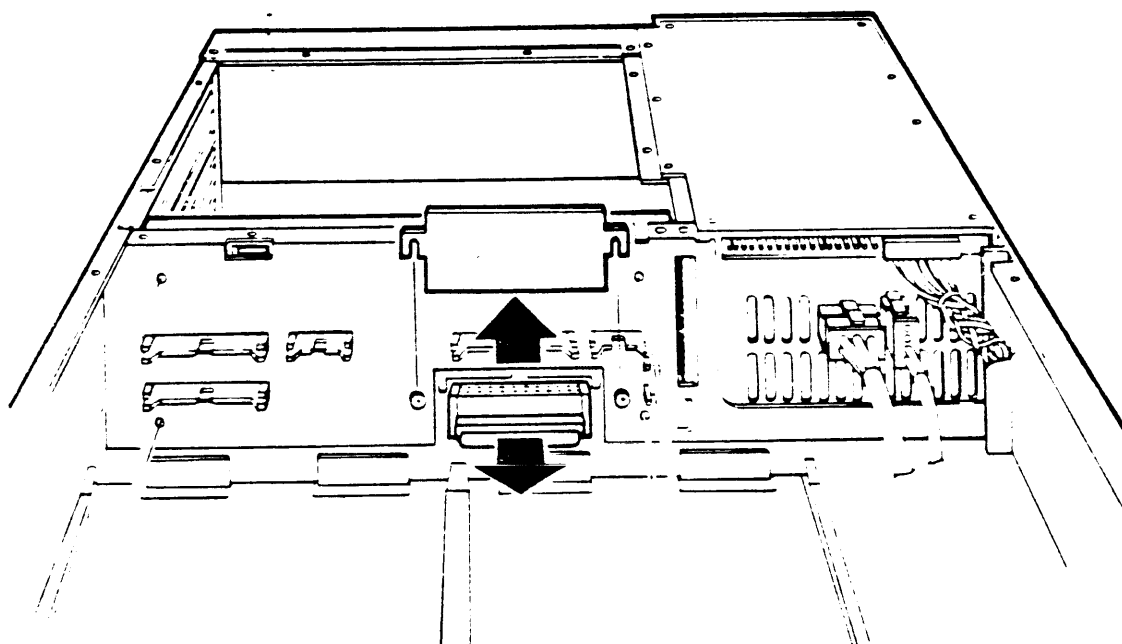

Figure 8-17 Trap Door Removal (non-TK50 model shown)
2. Remove the two screws which attach the trap door to the signal distribution panel, and remove the door (figure 8-17).